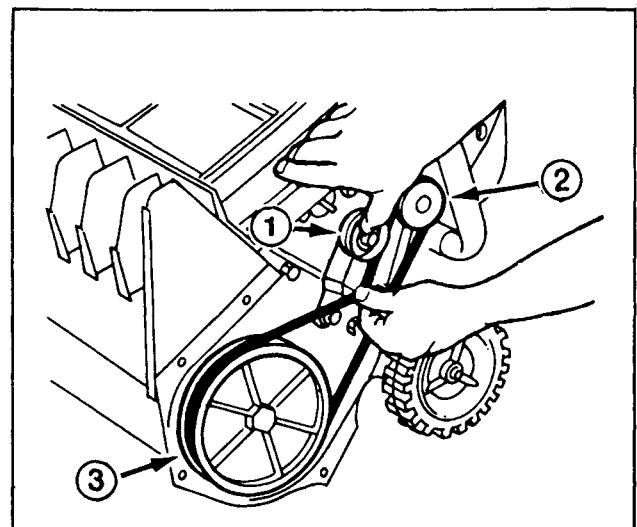

Fig. 9
3. REMOVING BELT (Fig. 9) — Pull idler pulley up slightly while pulling out on belt. Allow pulley to gradually release when it can move past the belt. DO NOT LET IDLER PULLEY SNAP. Remove belt from engine and rotor pulleys.